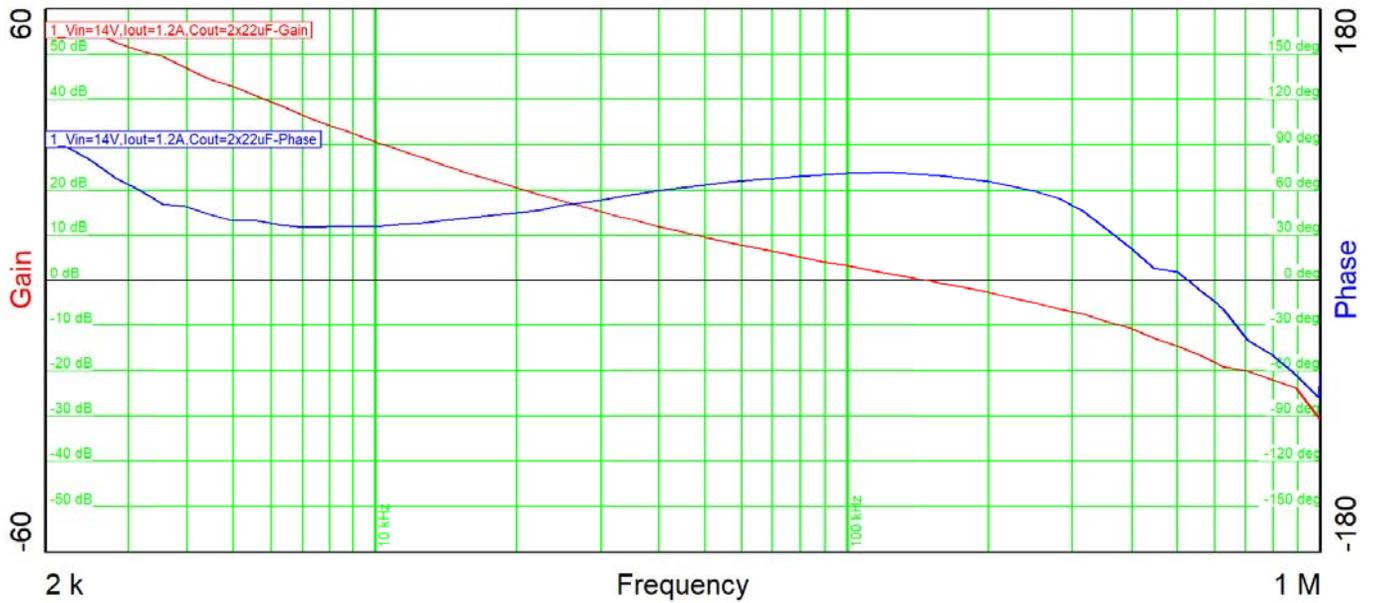

Figure 15: Bode Plot Measurement of 1V5_BUCK at 1.2 A
- Figure 15: Bode Plot Measurement of 1V5_BUCK at 1.2 A